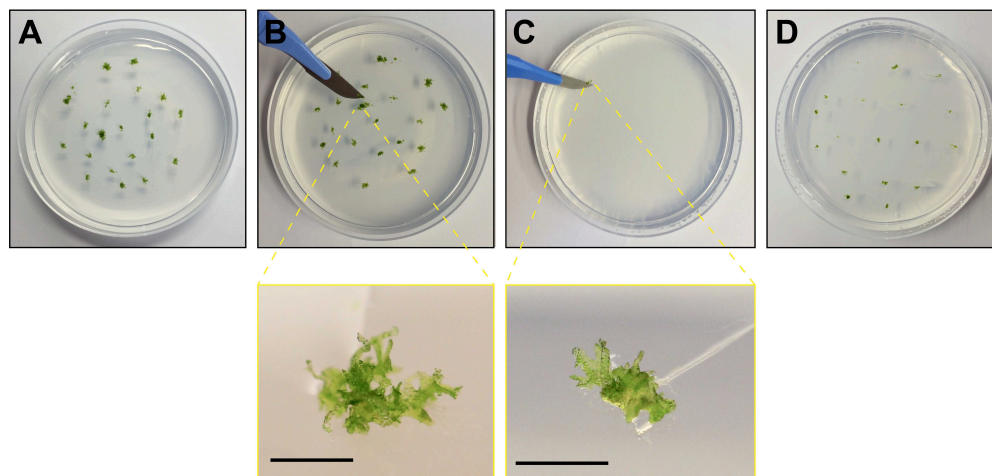

Figure 2: *A. agrestis* Oxford tissue culturing
- 3 Axenic cultures of *A. agrestis* gametophytes can be routinely propagated by monthly sub-culturing as shown in **Figure 2**.